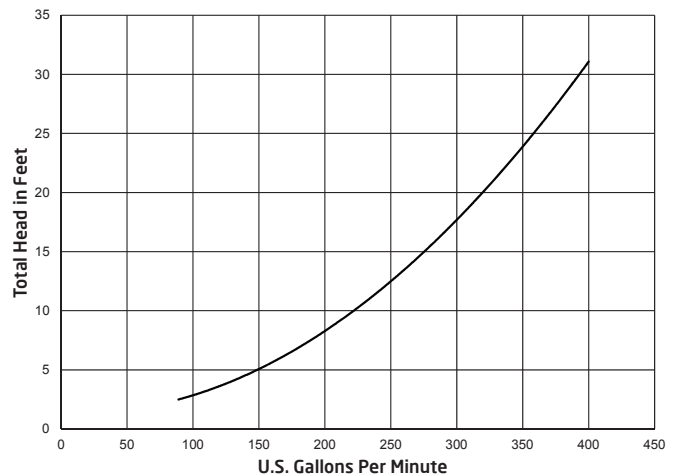

Figure 2
- For optimal performance, use 4" plumbing when the total distance between the pump and jet housing is 30 ft or less. The plumbing should be as direct and free from turns or bends as possible because **elbows and other fittings can create large friction losses and reduce the performance of the system. The shortest length of pipe with the minimum number of fittings possible should be used to avoid any significant friction loss due to the pipe and fittings.** **NOTE:** Refer to Figure 2 for the BaduJet super-sport head loss curve.
- A maximum of seven (7) 90° 4" elbows may be used with 30 ft of horizontal 4" pipe for the suction line and 30 ft of horizontal 4" pipe for the discharge line without negatively affecting the performance of the system.